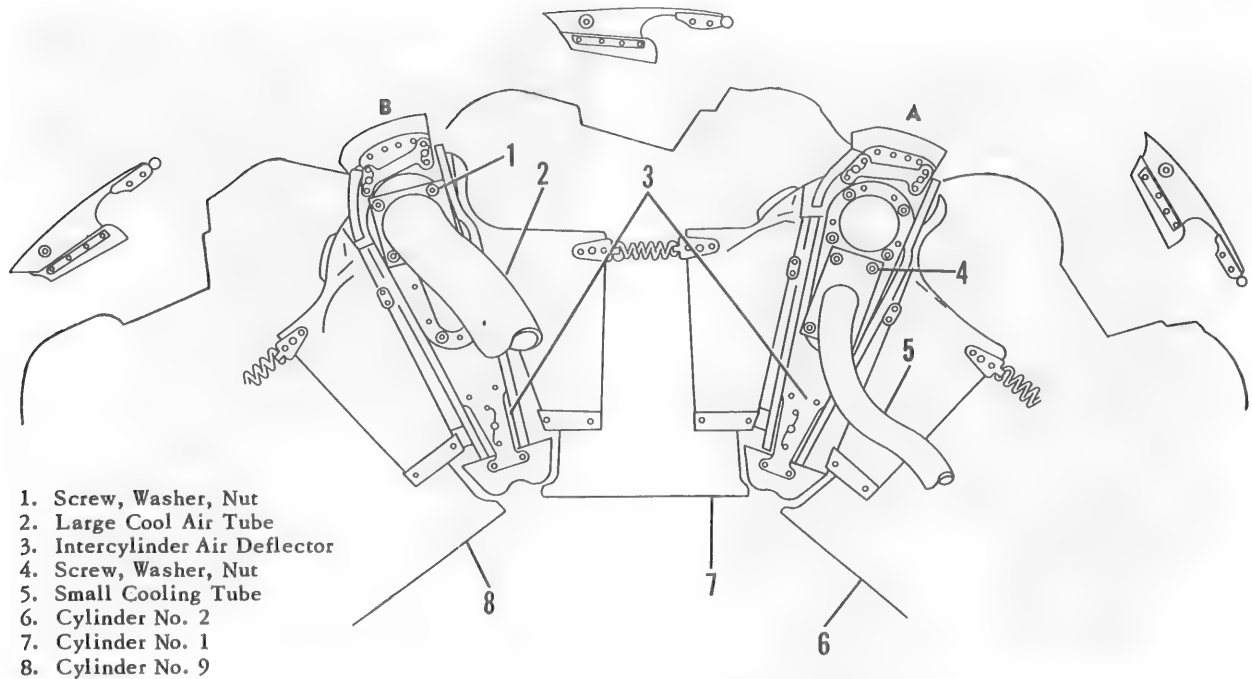

Figure 3-22. Typical Installation of Accessory Compartment and Engine Mount Cooling Tubes
3-68. DESCRIPTION. (See figure 3-22.) Eight cooling tubes are installed on the power plant to
a. Remove screws, washers, and nuts (1 and 4, figure 3-22).
b. Remove large cooling tube (2) and small cooling tube (5) from all intercyylinder air deflectors (3).